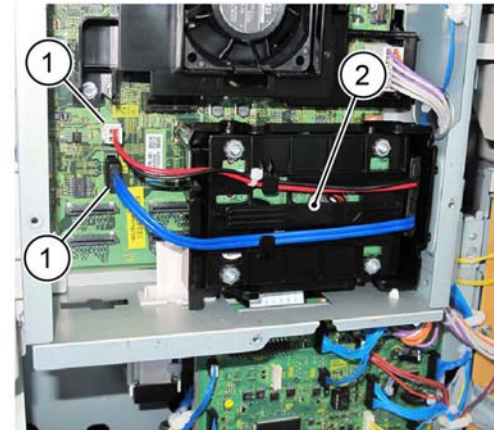

Figure 2 HDD removal
3. If the machine has an HDD assembly installed, remove the HDD assembly, Figure 2:
- a. Disconnect the connectors (1).
- b. Remove the HDD assembly (2).